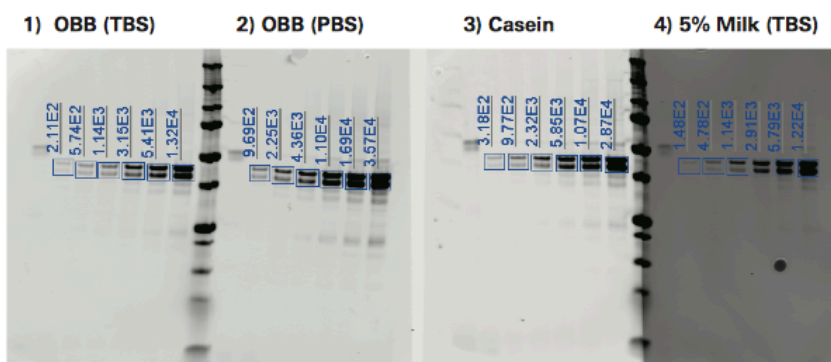

Figure 2A. Blots viewed as a single image, with uniform image display settings.
- View all blots together in a single image, with uniform image display settings, to compare membrane background levels and band intensity (Fig. 2A).
Figure 2A. All blots were viewed together in a single image, with identical image display settings. Signal intensity values are shown in each lane. Higher membrane background was observed on the blot blocked with 5% Milk in TBS.
Signal intensity values in Figures 2A and 2B were not affected by changes to the image display settings. *Signal intensity measurements are derived from the raw image data. Image display settings adjust the visual mapping of raw data to the pixels on the computer monitor, but do not affect the raw data.*
- Blocking with 5% milk in TBS resulted in higher membrane background than other blocking conditions (Fig. 2A). For comparison of membrane background levels, blots were viewed together as a single image, with uniform image display settings.